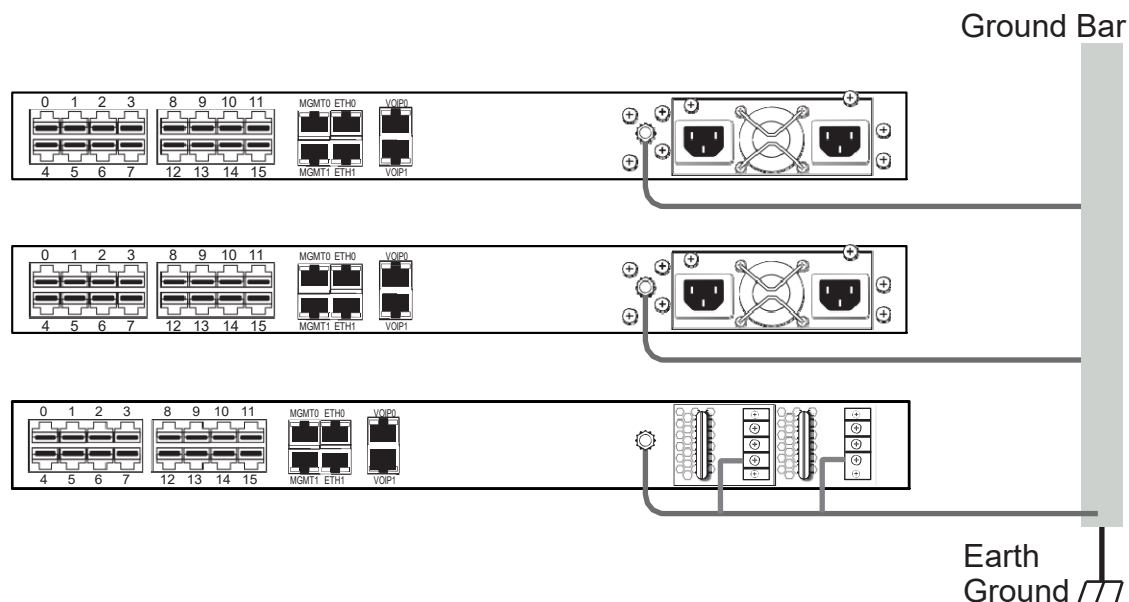

Figure 2.12 Ground Connection
- Do NOT daisy chain the ground between equipment. Use a ground bus bar, as show in figure 2.12 on page 27.
1. Connect one end of a ground wire to the ground lug of the 800 series gateway. See figure 2.12 on page 27.